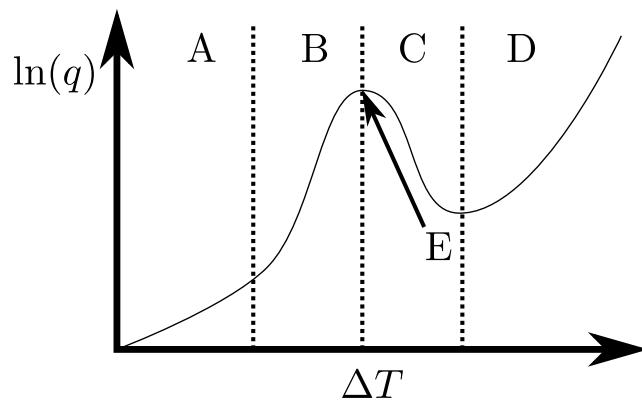

Figure 26: A typical boiling heat flux versus driving temperature difference curve.
- 6) Which region of the boiling curve in Fig. 26 is the nucleate boiling regime? **[2 marks]**
- 7) Which region of the boiling curve in Fig. 26 is the operation of the boiler unstable? **[2 marks]**